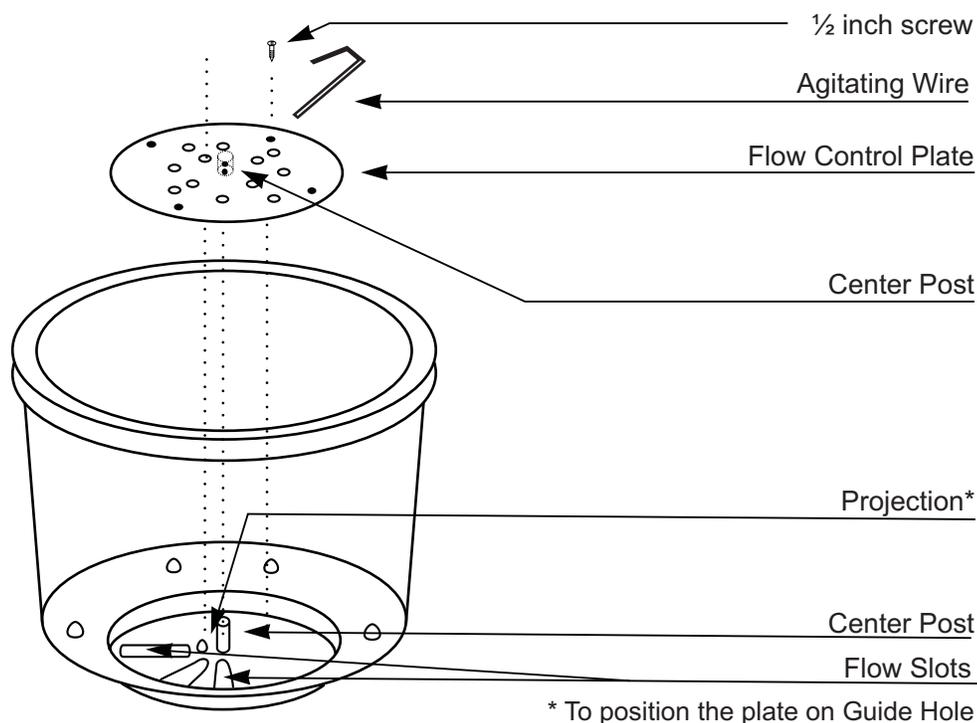

Figure 1. Exploded diagram illustrating installation of flow control plate.
7. Install according to directions in Flow Control Plate Installation (Fig. 1).
The Flow Control Plate is secured to the bottom of the hopper to regulate flow (Figure 1).
1. From Figure 1, select hole size according to desired application rate.